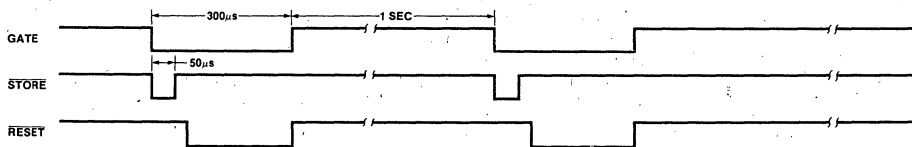

Figure 12: Inexpensive Frequency Counter
This circuit uses an ICM7213 precision one minute/one second timebase generator using a 4.1943 MHz crystal for generating pulses counted by an ICM7217B. The thumbwheel switches allow a starting time to be entered into the counter for a preset-countdown type timer, and allow the register to be set for compare functions. For instance, to make a 24-hour clock with BCD output the register can be preset with 2400 and the EQUAL output used to reset the counter. Note the 10k resistor connected between the LOAD COUNTER terminal and Ground. This resistor pulls the LOAD COUNTER input low when not loading, thereby inhibiting the BCD output drivers. This resistor should be eliminated and SW4 replaced with an SPDT center-off switch if the BCD outputs are to be used. This technique may be used on any 3-level input. The 100k pullup resistor on the count input is used to ensure proper logic voltage swing from the ICM7213. For a less expensive (and less accurate) timebase, an ICM7555 timer may be used in a configuration like that shown in Figure 12 to generate a 1Hz reference.
7. INEXPENSIVE FREQUENCY COUNTER/TACHOMETER (Figure 12)